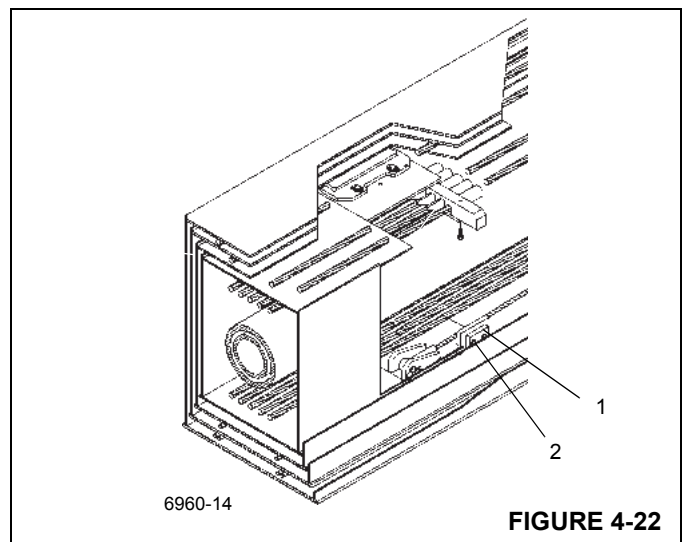

FIGURE 4-22
6. Install the lower rear side wear pads and shims (1) on the fly section with two capscrews (2) each (Figure 4-22).